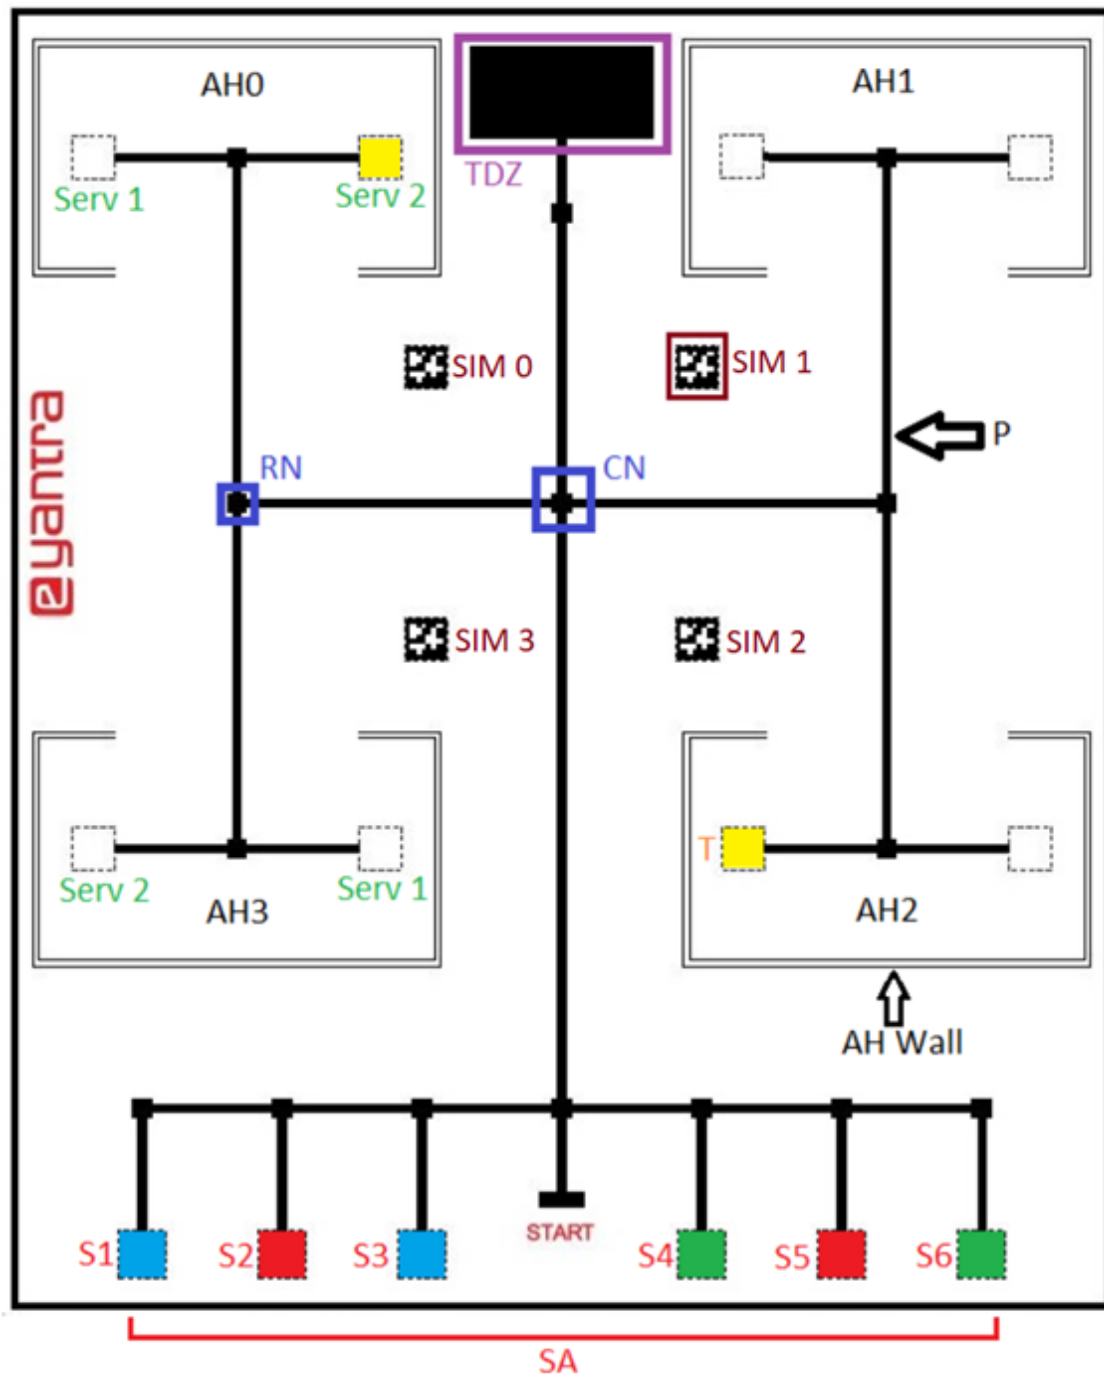

Figure 1: Arena and its components
The arena and its components are as shown in figure 1. A **colony** of ants has been abstracted on an arena.
With reference to Figure 1, we define the following:
Note: The placement of Supply Blocks (S1 to S6) & Trash Blocks (T) shown in Figure 1 is just for illustrating terms. During the competition the placement will be different.
Service and Identification Marker (SIM): A Service and Identification Marker (SIM) i.e. an ArUco marker is associated with each AH. Ant Bot identifies the Ant Hill number (AH0/AH1/AH2/AH3), its category (RAH or QAH) and the type of Service required by Ant Hill from the SIM. As shown in Figure 1, SIM 0 is associated with AH0, similarly, SIM 1 with AH1, SIM 2 with AH2 and SIM 3 with AH3.